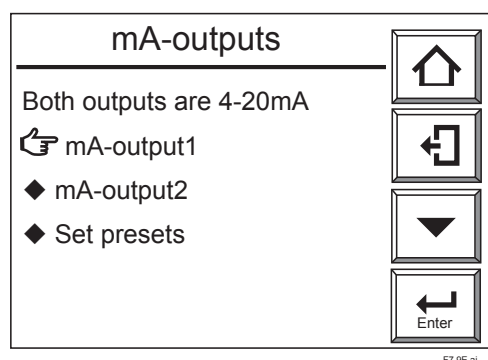

Figure 7.7 Setting "mA-outputs"
- (1) Select the "Commissioning" from the Execution/Setup display.
- (2) From the Commissioning (Setup) display, select "mA-output setup"; the display shown in Figure 7.7 then appears.